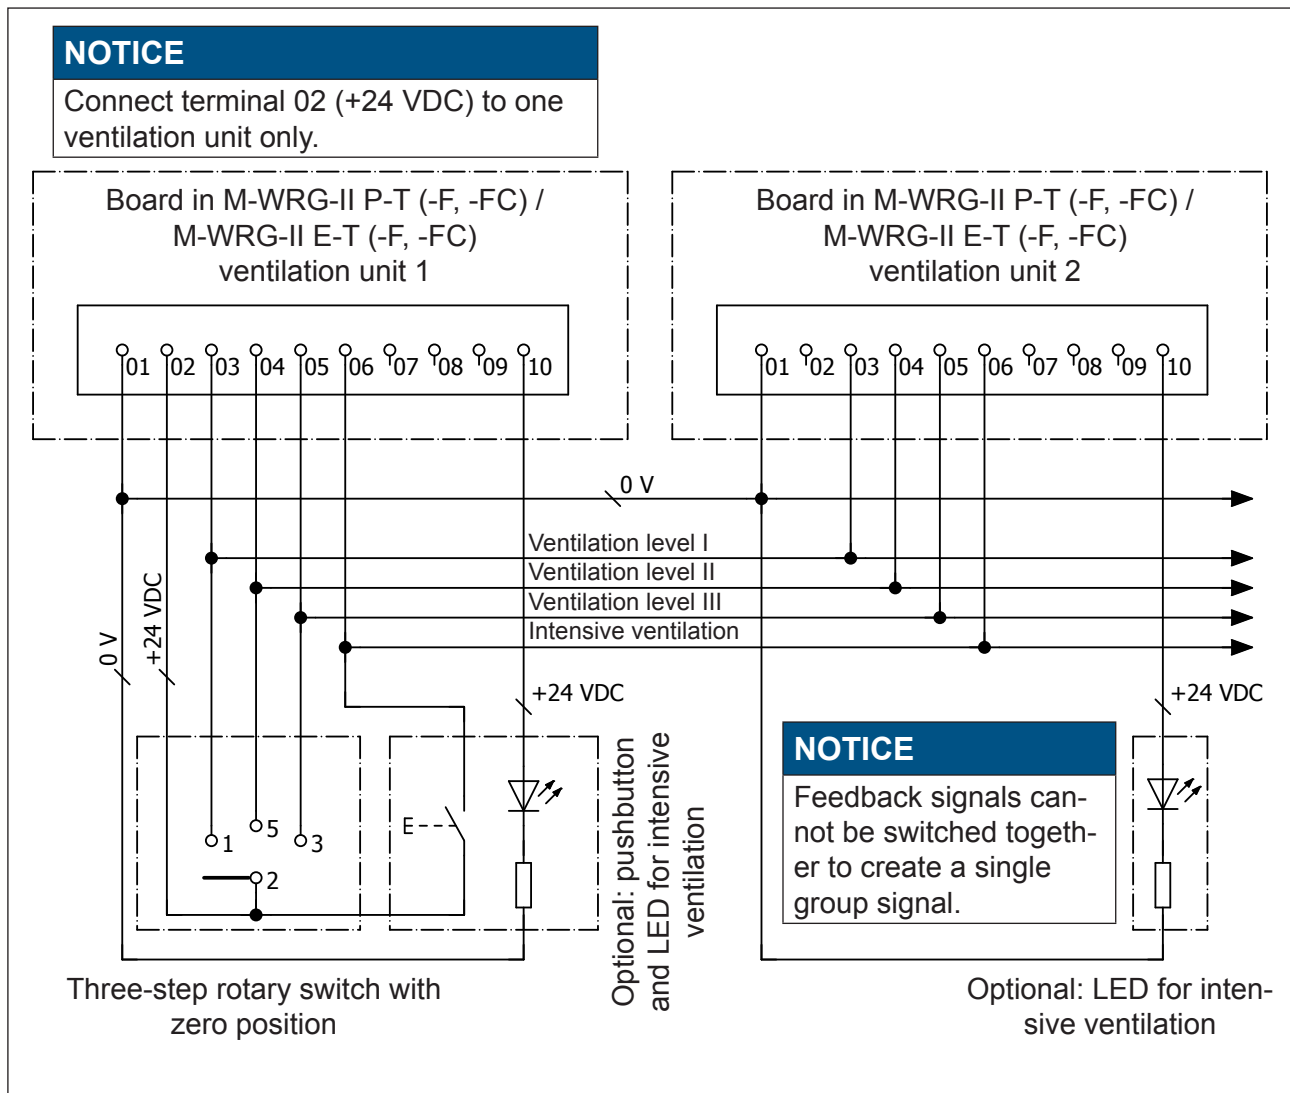

Fig. 36: Circuit diagram for wiring M-WRG-II P-T (-F, -FC) / M-WRG-II E-T (-F, -FC) ventilation units with control cable and optional pushbutton/LED
- ▶ Connect the control cable and optional pushbutton/LED to the ventilation unit boards (see terminal assignment in section 16.6.1 and circuit diagram in Fig. 36 on page 56).
- The terminals 01 (0 V) of all ventilation units must be connected to one another (see Fig. 36).
- The terminal 02 (+24 V DC) of the three-step rotary switch may only be connected to the terminal 02 of a single ventilation unit (see Fig. 36).